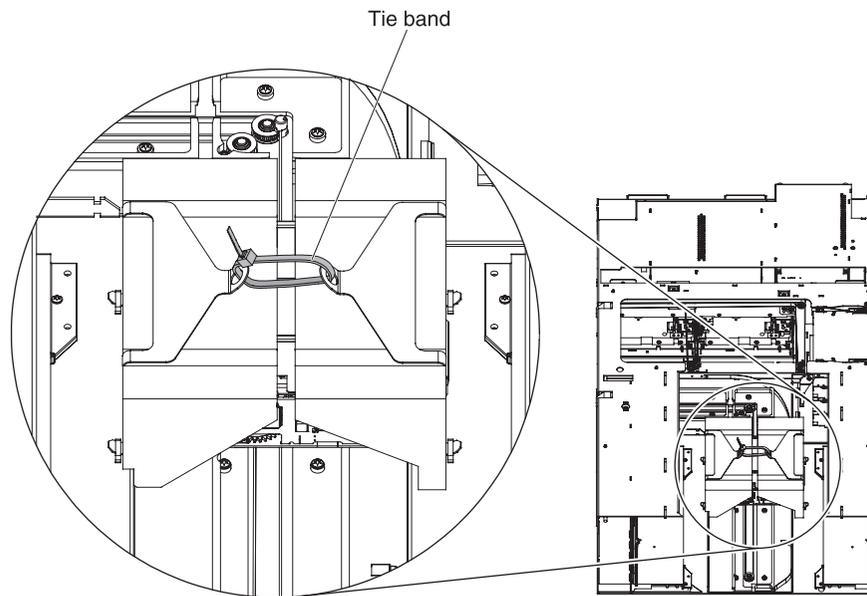

Figure 9. Securing the robotics
- Slide the robotics with the foam packing material under the metal restraints so that the metal bands fall into the restraint cutouts. Clamp the two halves of the metal restraints together and use a plastic tie band to secure the robotics to the library chassis as shown in Figure 9.